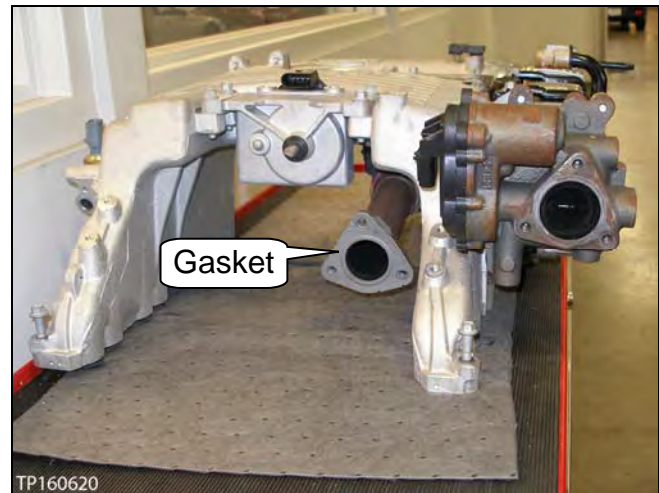

Figure 77
22. Replace the EGR bypass tube gasket with a new one (see Figure 77).